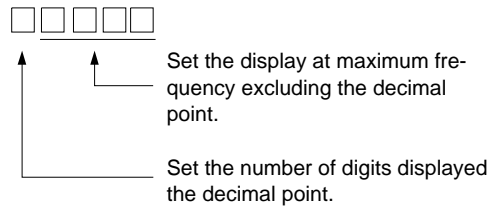

Fig 6.61 PI Scaling Setting Rule
- 40 to 39999: User desired display. Sets the maximum setting displayed using the setting rule in *Fig 6.61*